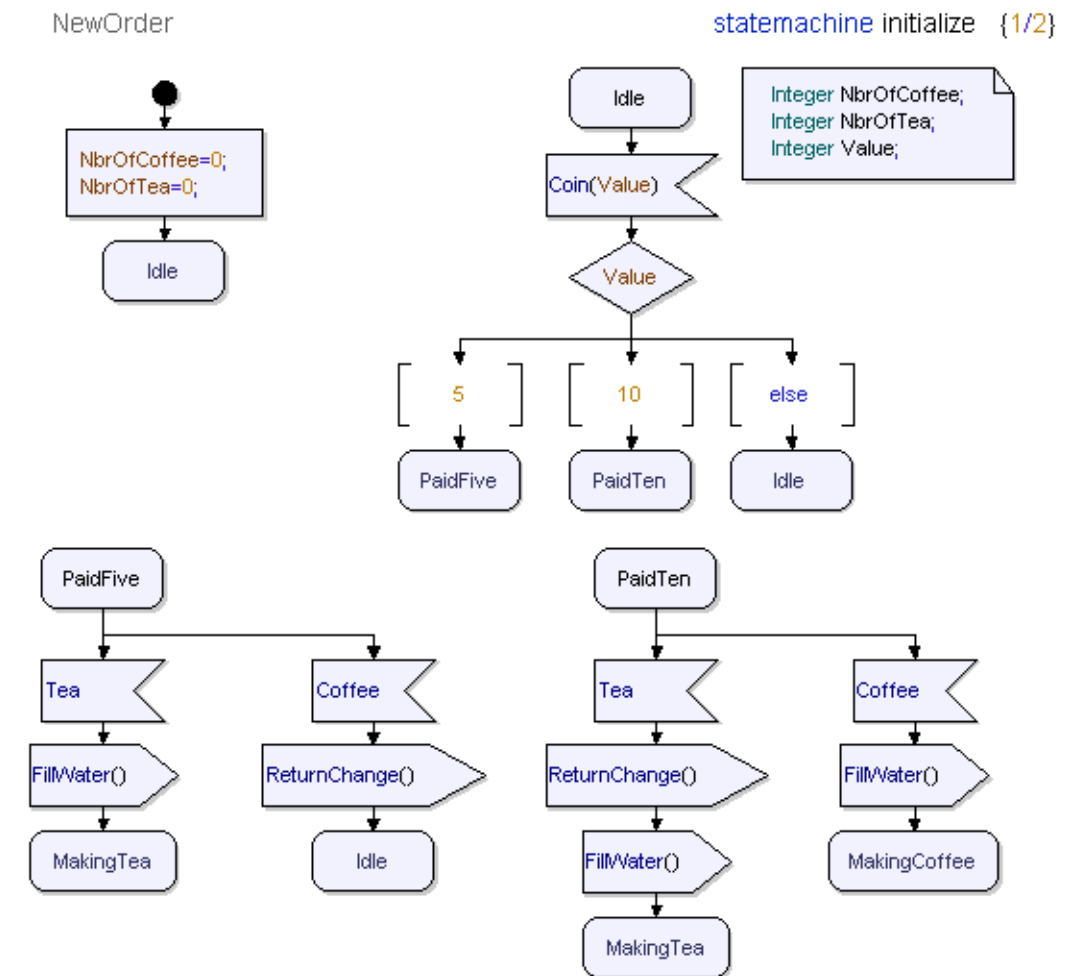

Figure 15: State machine diagram NewOrder
3. Implement the behavior as depicted in Figure 15 on page 29.